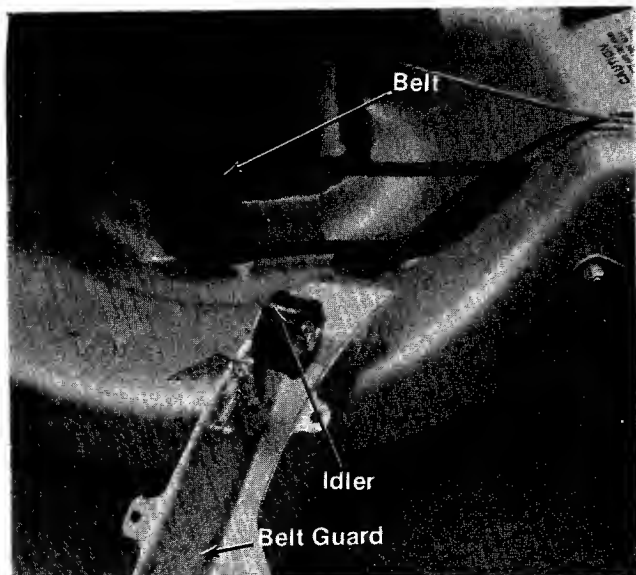

FIGURE 21
2. Remove the three screws holding the belt guard (and idler assembly). (See figure 21.)